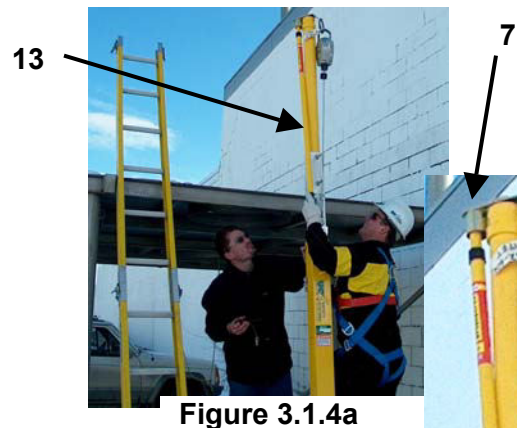

Figure 3.1.4a
Step 4: Extend the post by removing the all pin assemblies. Using the extension pole (13), insert the pole into the socket on Section 3 align the holes and secure using pin assembly (9), shown in Figure 3.1.4a & b.